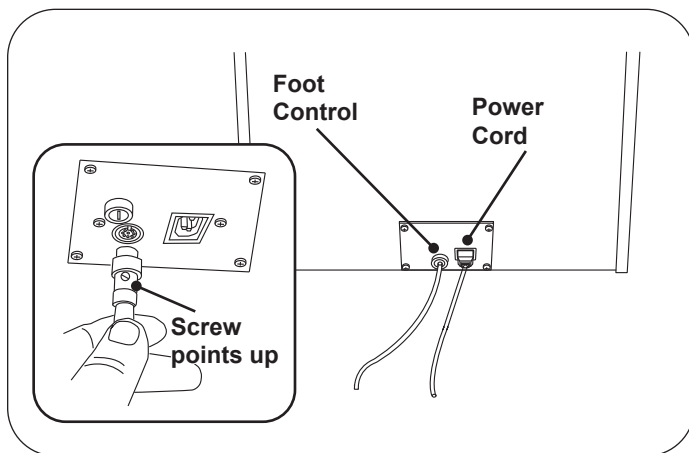
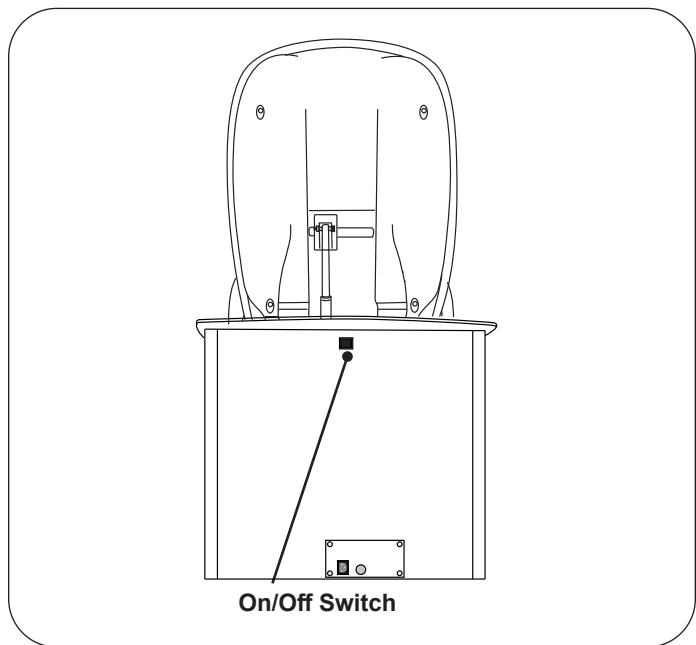

Figure 8. Power Cord and Foot Control Plug-ins
Figure 9. Foot Control On/Off Switch
10. Insert the foot control cord into the receptacle at the bottom of the rear panel (Figure 8). Make sure the pins are properly oriented and the plug is fully seated. Turn the locking ring clockwise to secure the plug to the table.
12. Plug the female end of the power cord into the receptacle at the bottom of the rear panel (Figure 8). Plug the male end of the power cord into a 115 Volt or 230 Volt grounded receptacle, depending on your configuration. Make sure the black Foot Control On/Off Switch at the back of the table is on (Figure 9).